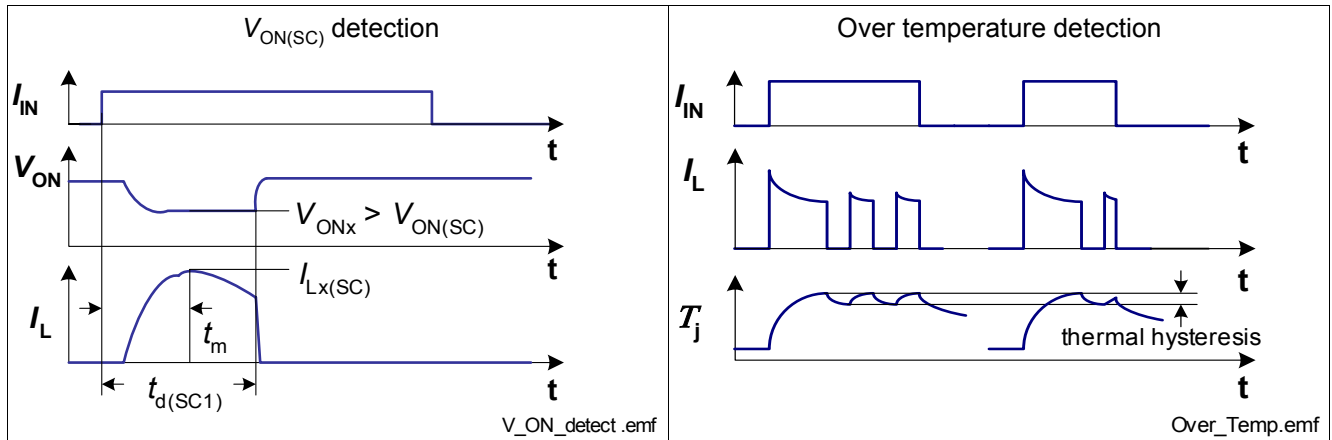
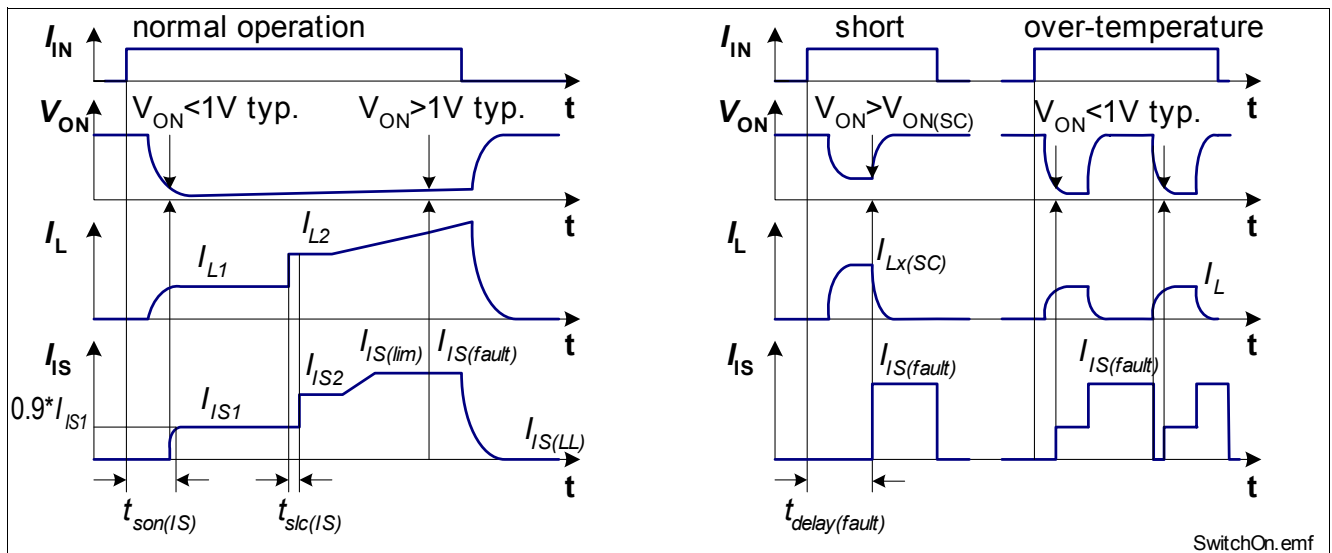

Figure 12 Overload Behavior
Figure 19 Timing of Diagnosis Signal in ON-state
In the event that either the short circuit detection via $V_{ON(SC)}$ is not activated or that the on chip temperature sensor senses over-temperature before the blanking time $t_{d(SC1)}$ expired, the device switches off resulting from over-temperature detection. After cooling down with thermal hysteresis, the device switches on again. The device will react as during normal switch on triggered by the input signal. Please refer to **Figure 12** and **Figure 19** for details.
- 2) Short circuit current limit for max. duration of $t_{d(SC1)}$, prior to shutdown, see also Figure 12.
Details about timings between the diagnosis signal I_{IS} , the forward voltage drop V_{ON} and the load current I_L in ON-state can be found in Figure 19.